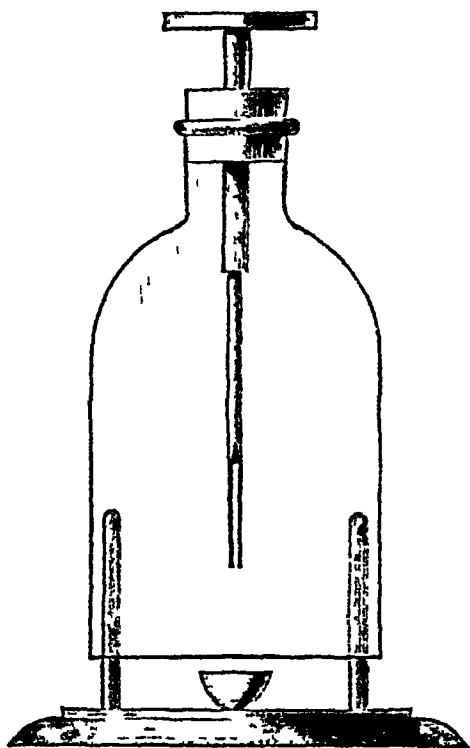

FIG 161
**The Gold-leaf Electroscope** — A bell-jar is fitted with a good india-rubber cork (fig 161), through the centre of which, passes a glass tube, the tube being filled with shellac, the shellac is melted, and a thick copper or brass wire pushed through. To the top of the wire a circular piece of brass or copper (a smooth penny) is soldered, the other end is flattened. The bell-jar fits into a circular groove in a board that should be covered with tinfoil, or